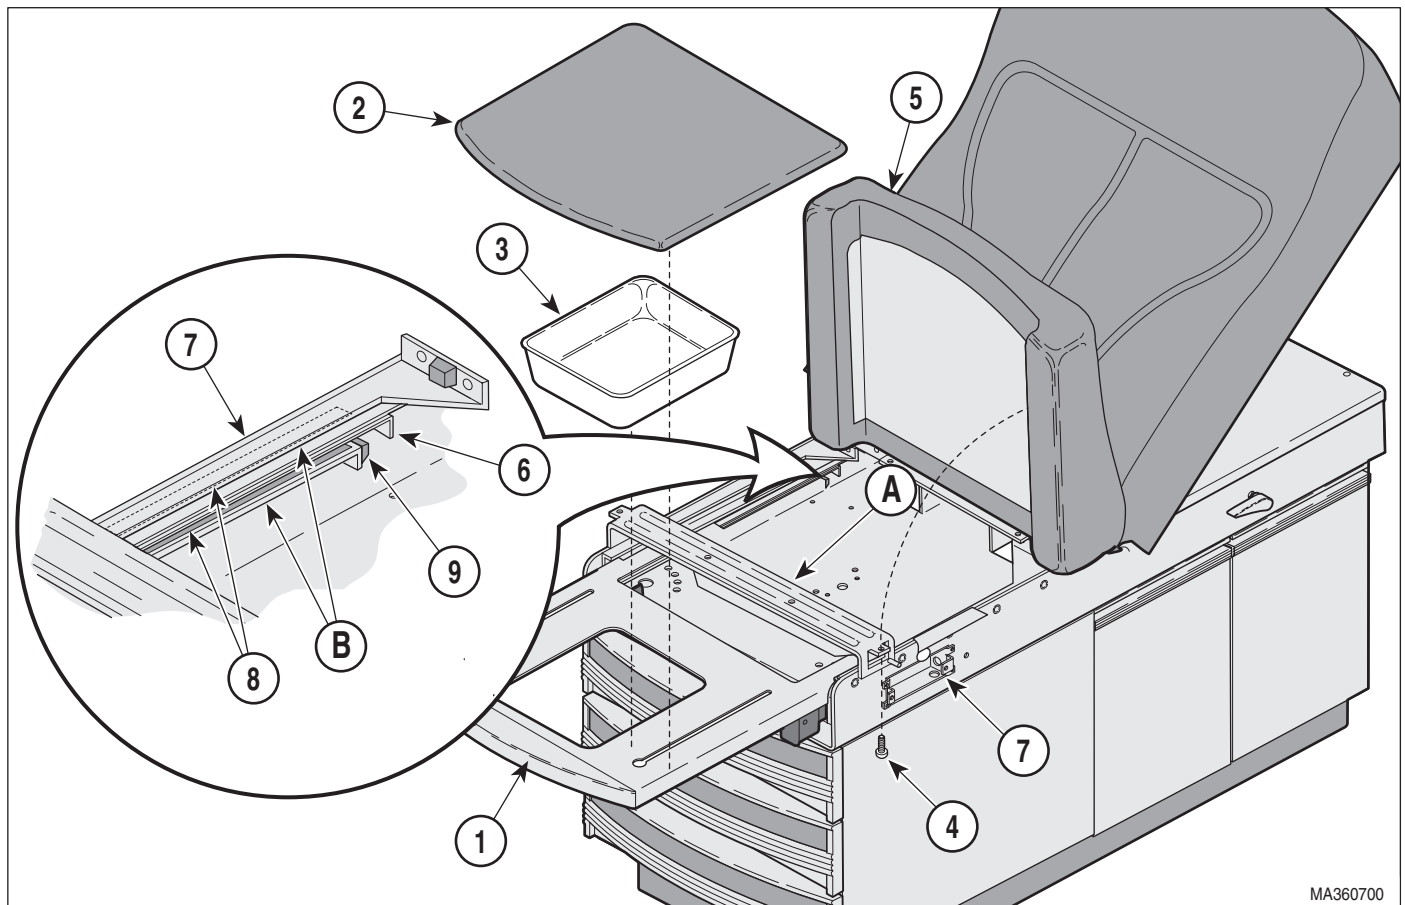

Figure 4-2. Footrest Extension Removal / Installation
- (1) Unplug the table power cord from the wall outlet.
- (2) Pull out on the footrest assembly (1, Figure 4-2) until it is fully extended.
- (3) Remove the upholstered footrest pad (2) and treatment pan (3).
Before installing the footrest weldment inspect the footrest runners (B, Figure 4-2) to insure the nylo tape glides (8) are in place at the side and top of each runner. Also, inspect the rubber bumpers (9), located at the back of the footrest runners to insure they are intact.
- (1) Inspect the nylo tape glides (8, Figure 4-2) and rubber bumpers (9) and replace if worn. Place a light coating of petroleum jelly on the glide.
- (2) Insert the footrest weldment (1) into the runners (B) of the upper wrap weldment (7) and bend the two tabs (6) downward until vertical.
- (3) Install the treatment pan (3) and upholstered footrest pad (2).
- (4) Plug the table power cord into wall outlet.